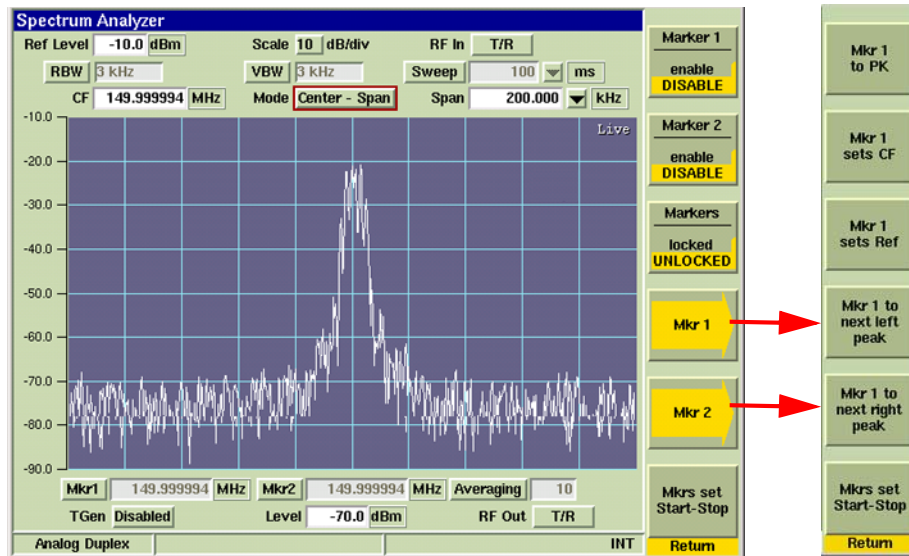

Fig. 7-33 Spectrum Analyzer Markers Soft Key Menu
The [Markers] Soft Key accesses a group of soft keys (refer to Fig. 7-33) that provide additional marker functions. Marker(s) must be enabled to use some of these functions. To define marker position:
- [Mkr 1 / Mkr 2] Soft Keys access additional soft keys (refer to Fig. 7-33) that also adjust marker position on the display field.